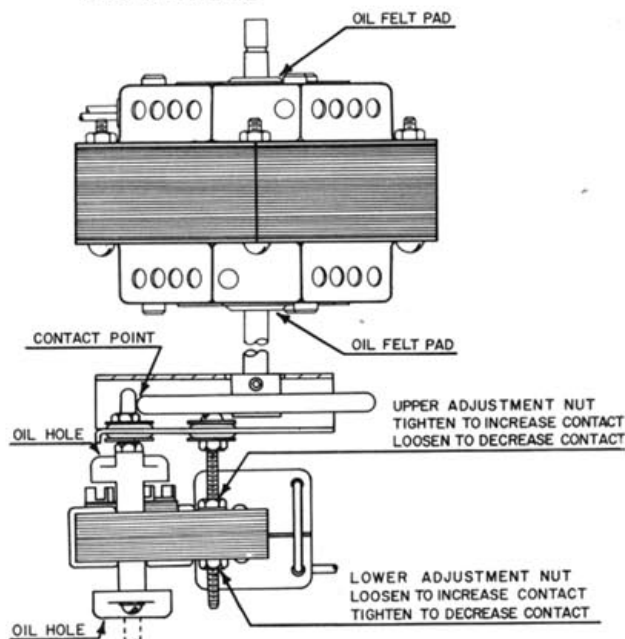

Figure 6. Motor Oiling and Adjustment Diagram
4. Saturate the bearing felts at either end of the large motor. (See OIL FELT PAD, figure 6.) Use oiler supplied or any good grade of lightweight machine oil. Do not overlubricate.
The small motor drives the shaft of the large motor at slow speed by making contact with the rim drive wheel assembly. (See figure 6.) The small motor armature is spring loaded to withdraw from the rim drive wheel assembly when the small motor is not operating.